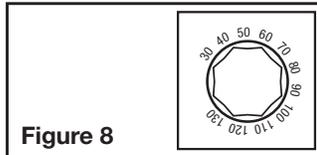

Figure 8
- Determine the CFM required. The unit can be set from 30 CFM to 130 CFM in increments of 10 CFM (**Figure 8**).